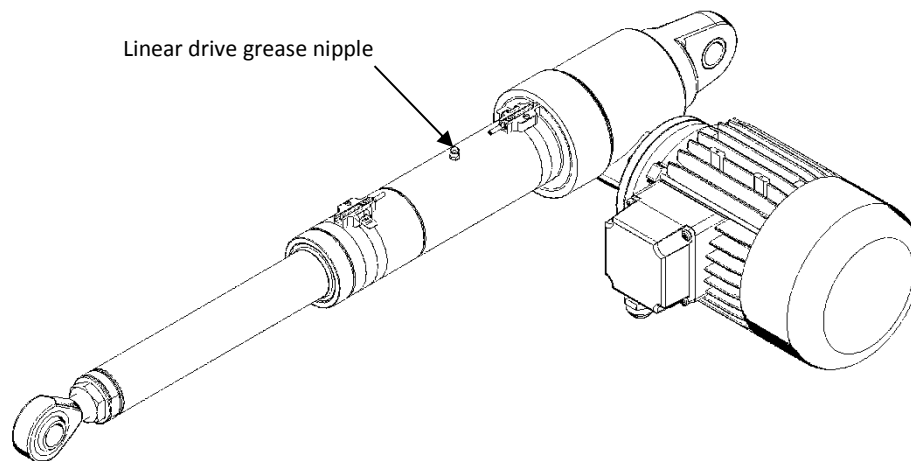

Figure 9.2 – Linear drive relubrication of ATL/BSA 30-40
- Relube the linear actuator using proper grease nipples, as shown on Fig. 9.2.